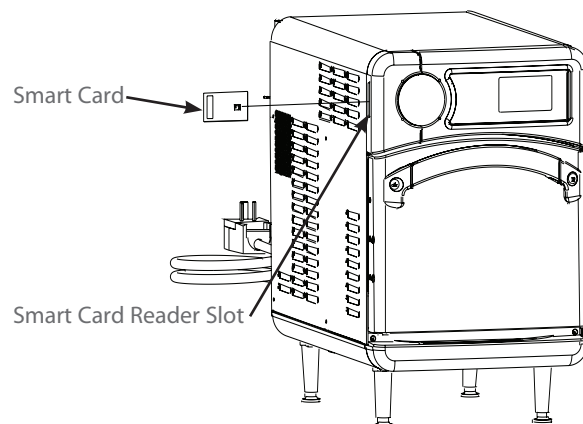

Figure 17: Inserting Smart Card
3. Insert the smart card (Figure 17).
1. Insert the smart card “1 of 3” (Figure 17).